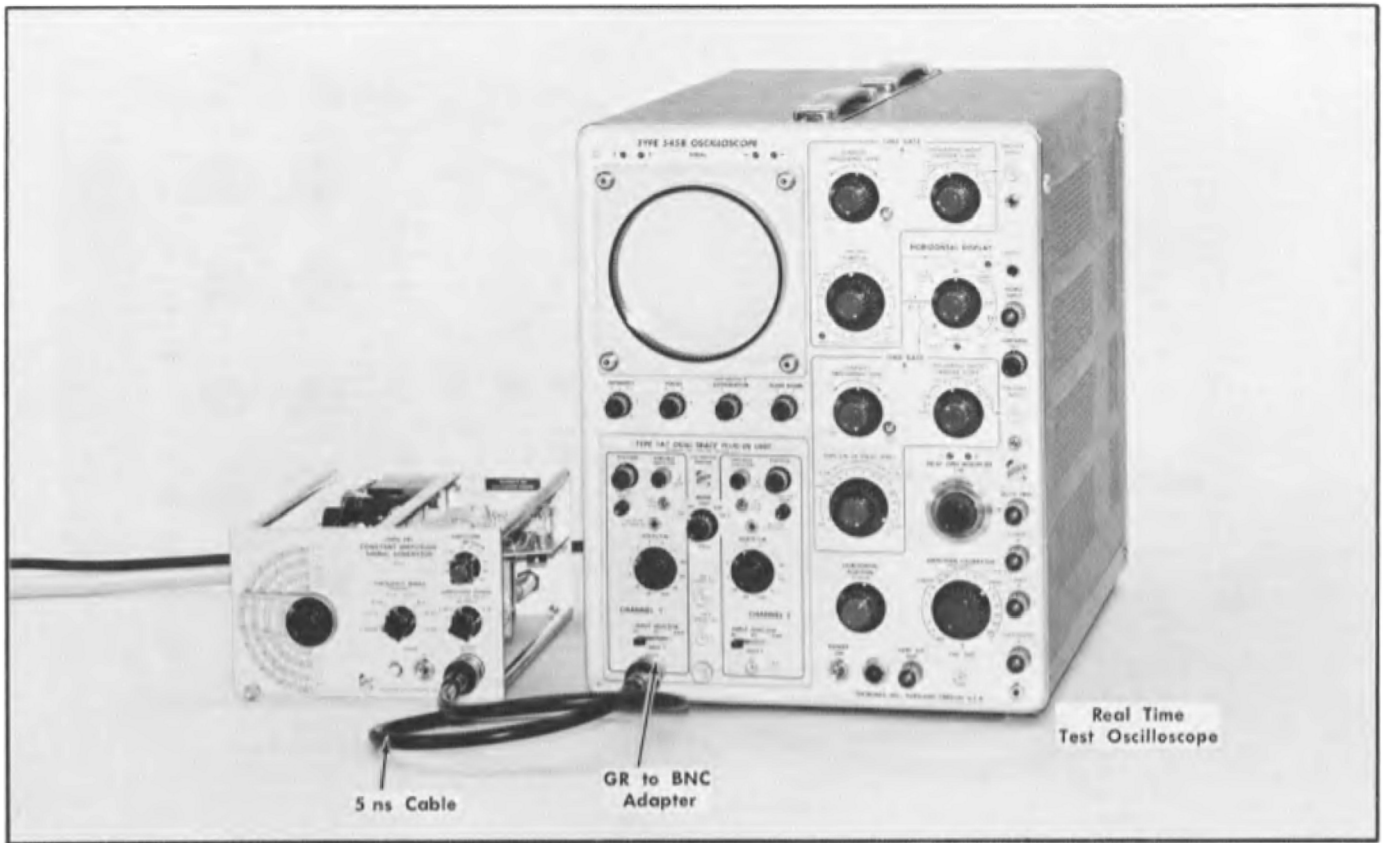

Fig. 6-8. Type 191 connection to real time test oscilloscope.
- f. Connect the OUTPUT connector on the Type 191 through a 5 ns length of RG-8A/U coaxial cable and a GR to BNC adapter to the vertical input connector on the test oscilloscope; see Fig. 6-8.
- f. Connect the OUTPUT connector on the Type 191 through a 5 ns length of RG-8A/U coaxial cable, and a GR to BNC adapter to the vertical input connector on the test oscilloscope; see Fig. 6-8.